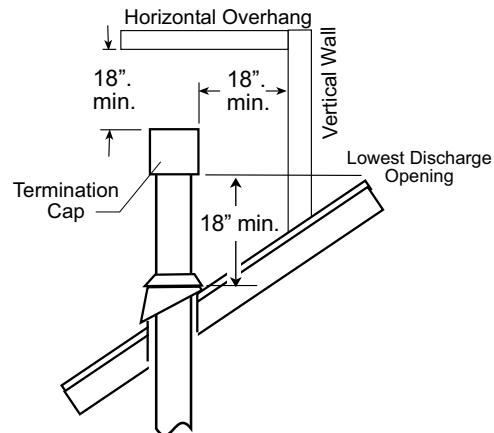

Figure 8. Minimum vertical termination height and roof clearance.
- In no case shall any discharge opening on the termination cap be less than 18" (457 mm) horizontally from the roof surface. See fig. 8.